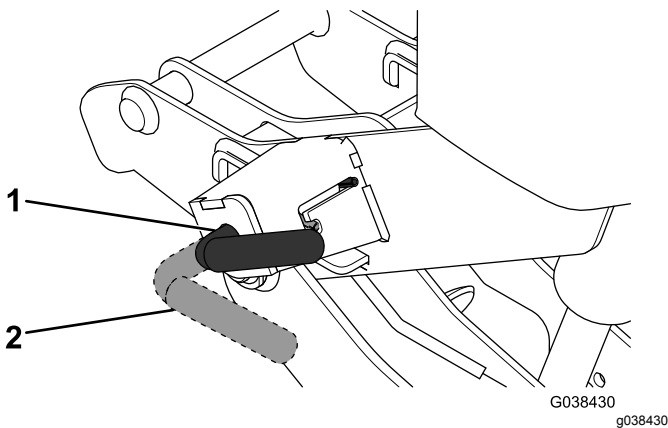

Figure 20
4. Turn the levers on the couplers to the ATTACH position (Figure 20).
8. Ensure that both coupler spring pins have fully engaged the coupler (Figure 20).